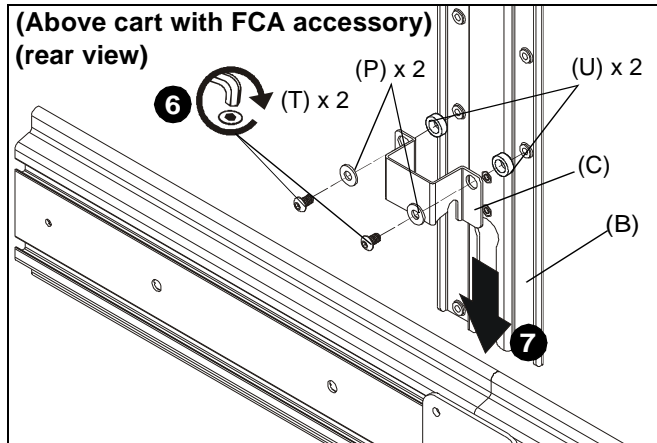

Figure 27
6. Use two 1/4-20 x 7/16" button head cap screws (T), two large washers (P) and two 3/5" spacers (U) to secure support bracket (C) to main bracket (B). (See Figure 27)
7. Slide main bracket (B) onto front of cart mount head assembly until support bracket (C) rests on top of cart mount head assembly. (See Figure 27)